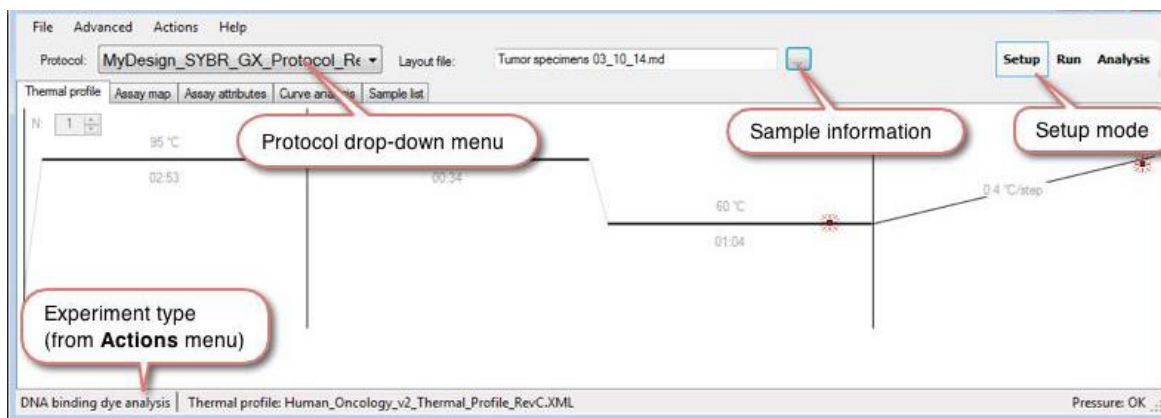

Figure 8. Selecting the appropriate protocol for your chip.
3. In the drop-down menu labeled **Protocol** in the top left corner, select the appropriate protocol for your chip (see Figure 8):